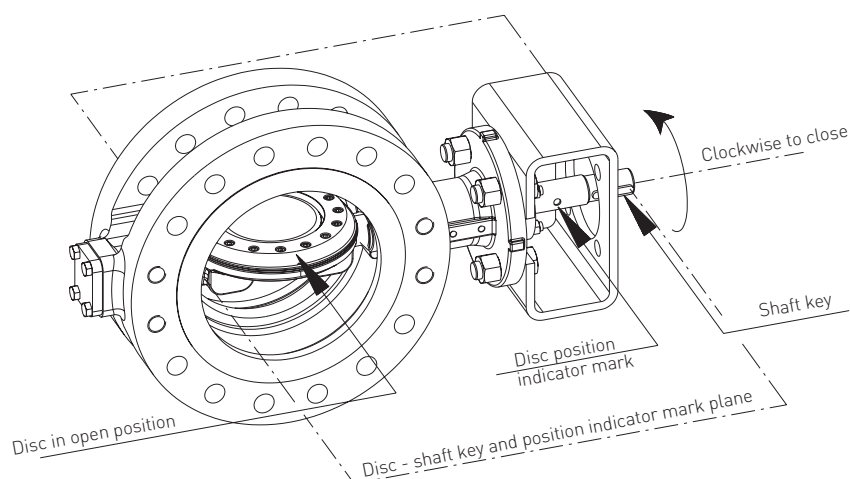
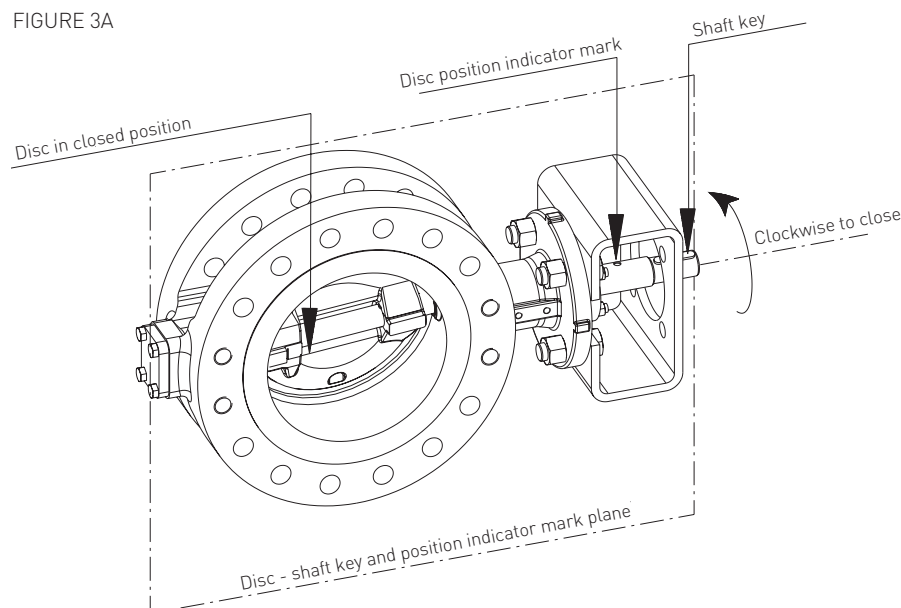

FIGURE 3A
FIGURE 3B
2. Check the operability of the valve by stroking it to "full open" and "full close". To verify the valve orientation, the disc position indicator mark on the shaft (during the normal open to close cycle) should rotate clockwise from a position in line with the pipe (figure 3A) to a position parallel to the pipe flanges (figure 3B).